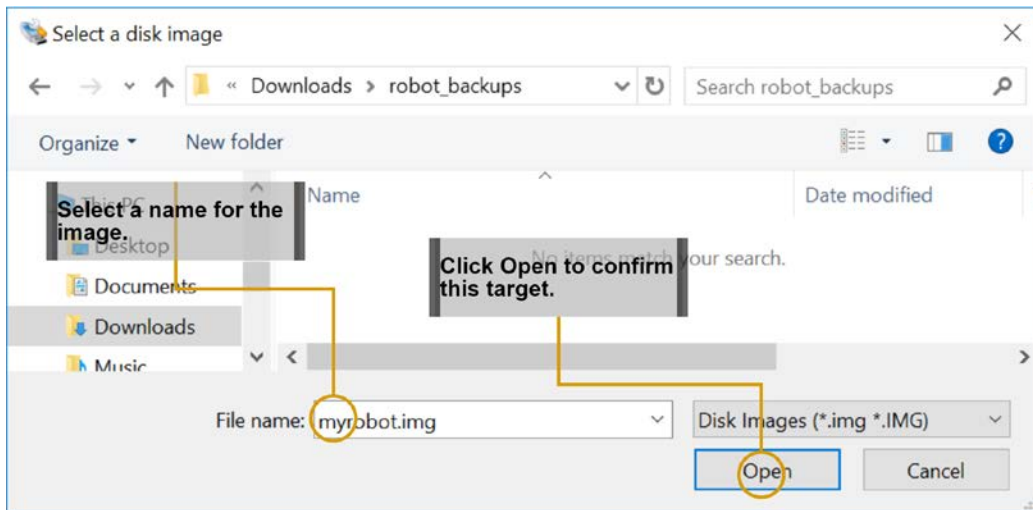

Figure 5.5 – Choose the location
- In *Figure 5.5*, I name my image `myrobot.img` in the **File name** box. You then click the **Open** button to confirm this: